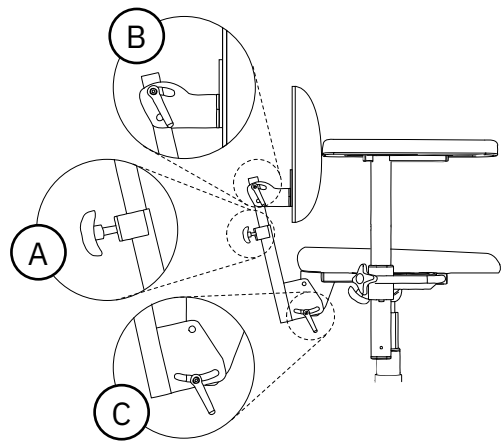

Figure 5.41. Standard backrest mechanism.
Standard can be adjusted in height (A), angle of backrest (B) and angle of backrest mechanism (C), see Figure 5.41. The back recliner can be adjusted in the range of 15° forward to 30° backwards.